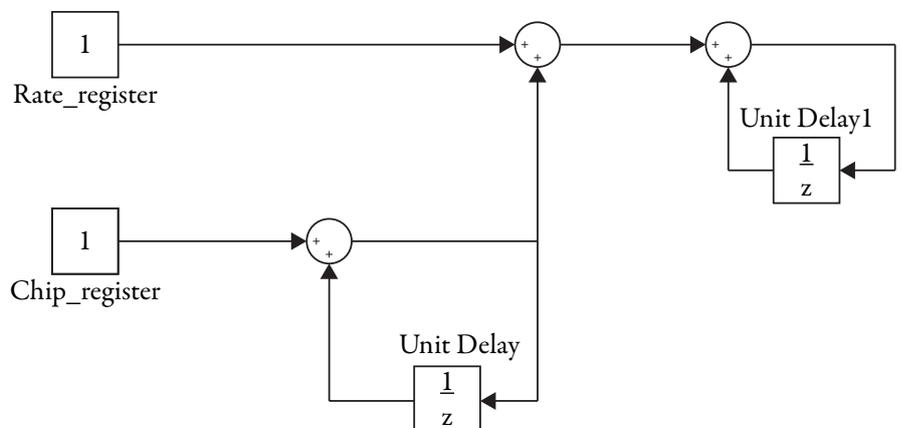

Figure 3: Chirp implementation
Figure 3: Microfabricated Swimmers (MS) of rectangular shape and different sizes. These small holders are made of SiNi. A strip of CoNi is deposited on these holders which is covered with a Au layer on one side and a Pt layer on the other side. After fabrication these structures are still attached to the substrate but can easily be released by breaking the small notch (under a microscope).
is integrated twice in time. So, in order to create the chirp signal the chirp rate has to be integrated, and then summed with the frequency to be integrated a second time. See figure 3 for the chirp implementation.
VI). All of these steps are two-dimensional in the sense that they rely on top-down processing of the silicon substrate. An example of the resulting structures is shown in Figure 3. This example demonstrates that the pores are neatly etched, as defined by the 2D pattern in the mask material.
Typical structures in electronic circuitry and magnetic memory are much smaller and much more complicated compared to the array of pores shown in Figure 3. Furthermore, miniaturization leads to increasing density demands and therefore to even smaller dimensions. In the near future, these demands can no longer be fulfilled with existing 2D fabrication technologies, see Figure 4. Consequently, there is a growing need in industry for three-dimensional (3D) silicon micro- and nanostructures [2].